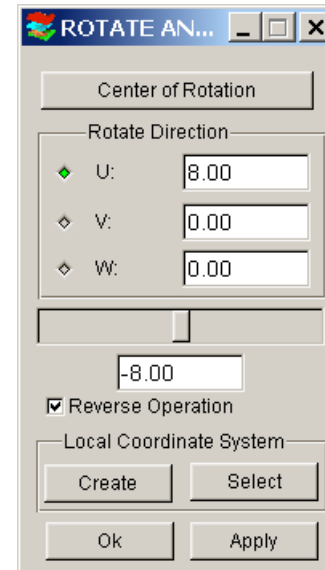

Figure 6.17
- b) Toggle on “U” input box (Figure 6.17)